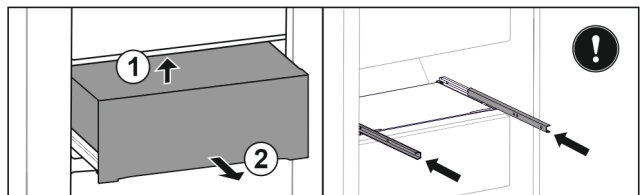

Fig. 159
- ▶ Lift drawer from below. Fig. 159 (1)
- ▶ Remove drawer to the front. Fig. 159 (2)